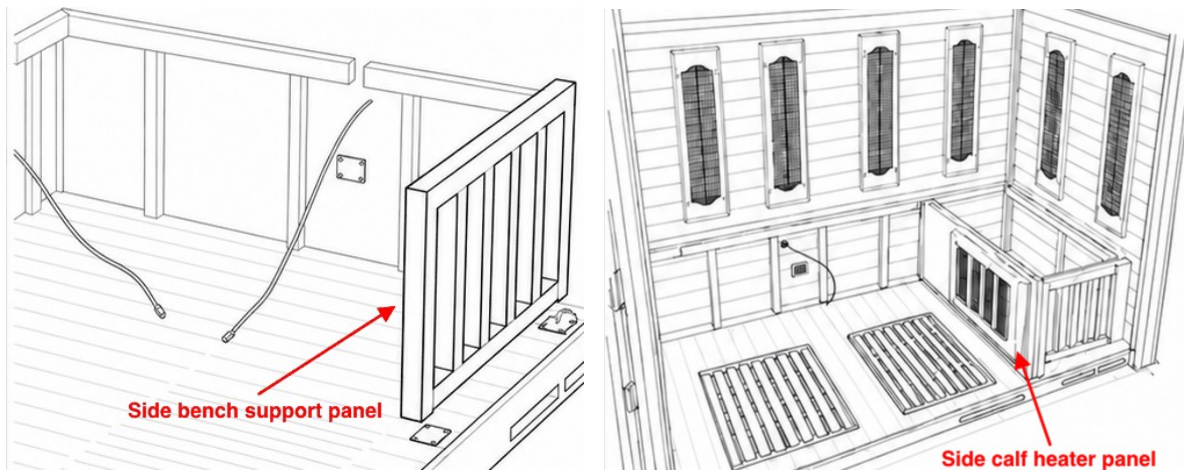

Figure 16. Side bench support panel in the A/C corner (left) and side calf heater panel along Wall A (right).
- Place it in the corner where Wall A meets Wall C, flat on the Floor Panel without rocking (Figure 16).
- Position it parallel to Wall A, resting in the slot on Wall B at one end and against the side bench support panel at the other (Figure 16).